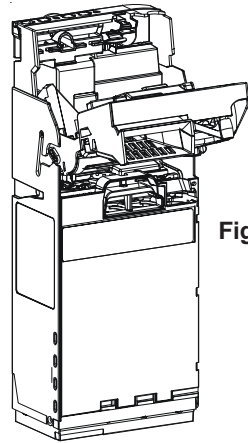

Fig. 1
- Push and hold the yellow acceptor release button on the top right (below reject lever) of the coin changer and tilt the acceptor assembly forward. You do not have to remove the cassette (See Fig 1).